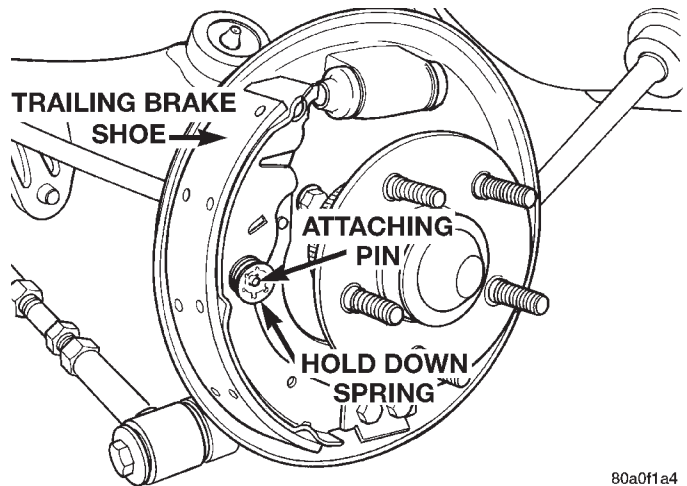

**Fig. 66 Hold Down Spring And Pin**
(11) Remove the hold down spring and attaching pin (Fig. 66) from the trailing brake shoe.
(4) Install the trailing brake shoe on the brake support plate. Install the attaching pin and hold down spring for the trailing brake shoe (Fig. 66).